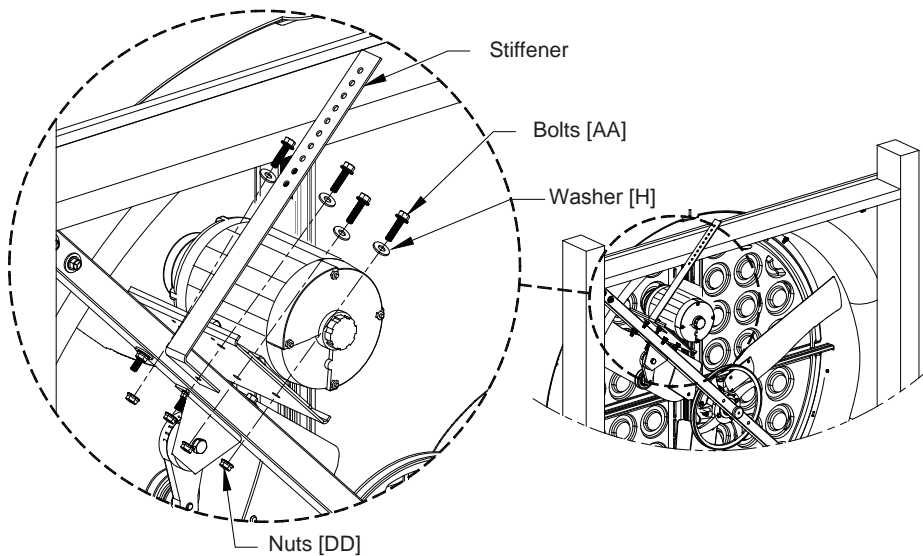

Figure 21A
Secure Motor to Motor Slide and Motor Bracket Stiffener using (4) Bolts [AA], Washers [H] and Nuts [DD]. The rear upper bolt is where the motor bracket stiffener is attached. See Figure 21A.